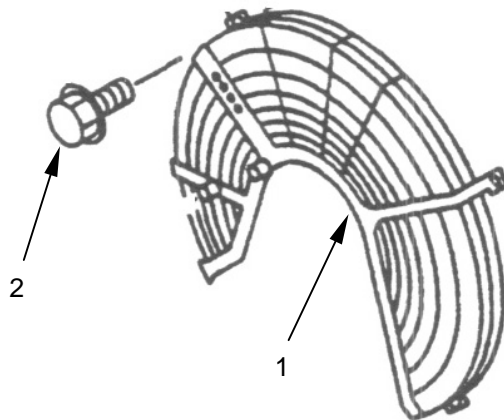

Figure 21. Fan Shroud
- b. Loosen and remove fan shroud (**figure 21, item 1**) mounting bolts (**figure 21, item 2**).
- c. Remove fan shroud (**figure 21, item 1**).
- s. Install fan shroud (**figure 21, item 1**).
- t. Fasten fan shroud in place with mounting bolts (**figure 21, item 2**).